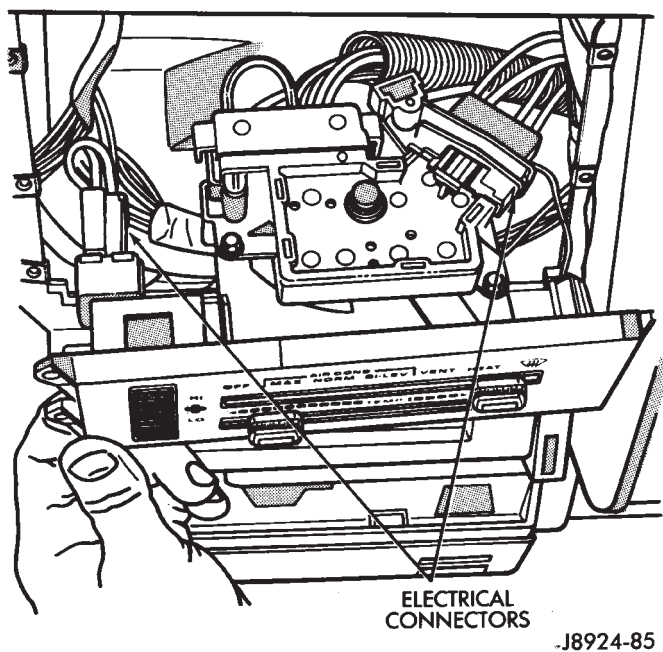

Fig. 5 Electrical Connectors
- (6) Remove the electrical connectors (Fig. 5).